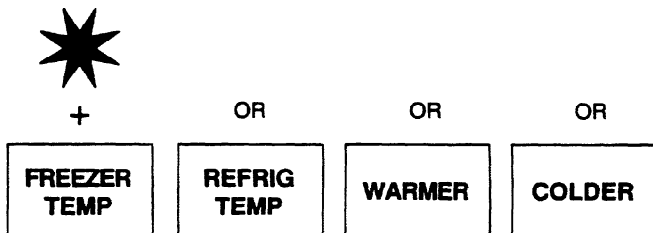

Figure 14
- f. To reactivate Temperature Display lights, press any of the top five (5) pads. See Figure 14.